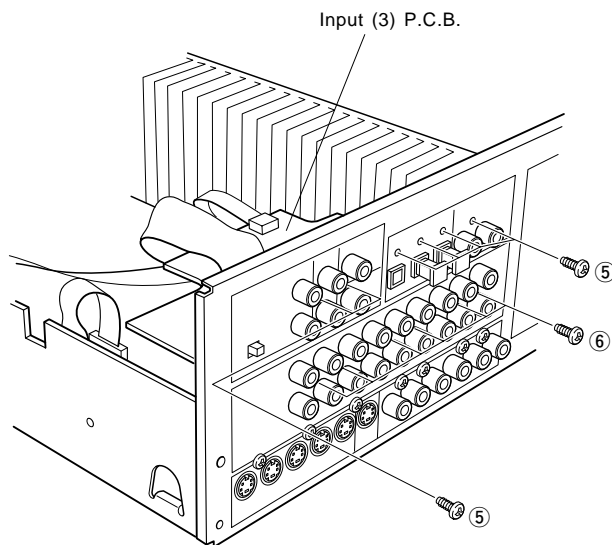

Fig. 2
**4. Removal of Input (3) P.C.B.**
- a. Remove 6 screws (⑤) and then remove the Input (3) P.C.B. in Fig. 2.
**5. Removal of Input (1) P.C.B.**
- a. Remove 6 screws (⑥) in Fig. 2.